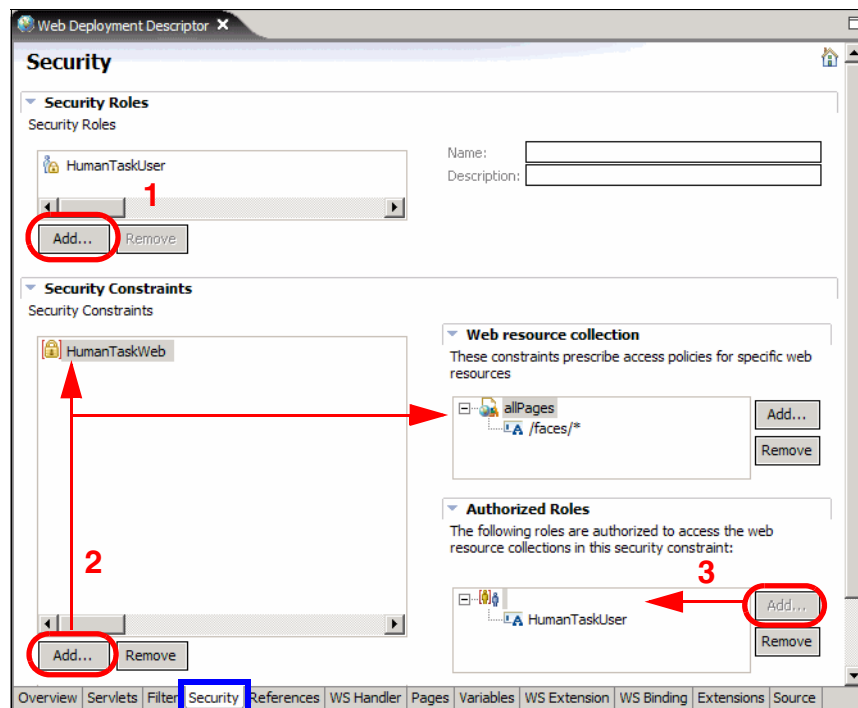

Figure 11-14 Web deployment descriptor with security
- ▶ Open the deployment descriptor of the `ClipsAndTacksFxHumanCustomWeb` project and select the *Security* tab. Figure 11-14 shows the completed definitions.